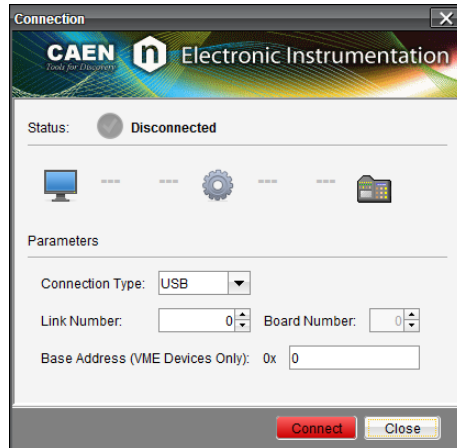

Fig. 6.5: Connection Window
- **“Connect” button:** opens the Connection window (Fig. 6.5).